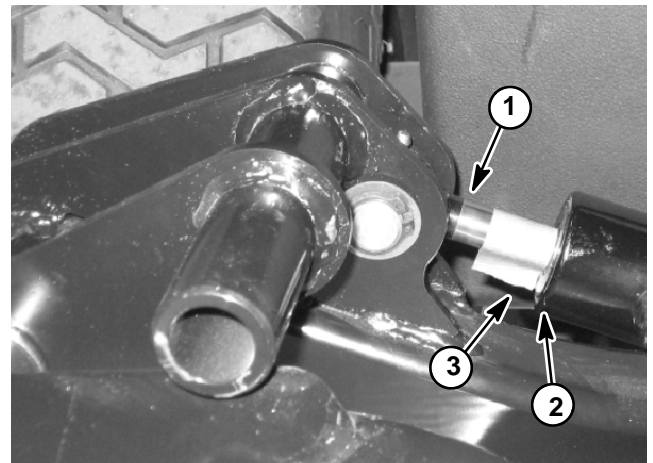

Figure 57
6. Mark the position of the lift cylinder rod at the lift cylinder head with a piece of tape (Fig. 57).